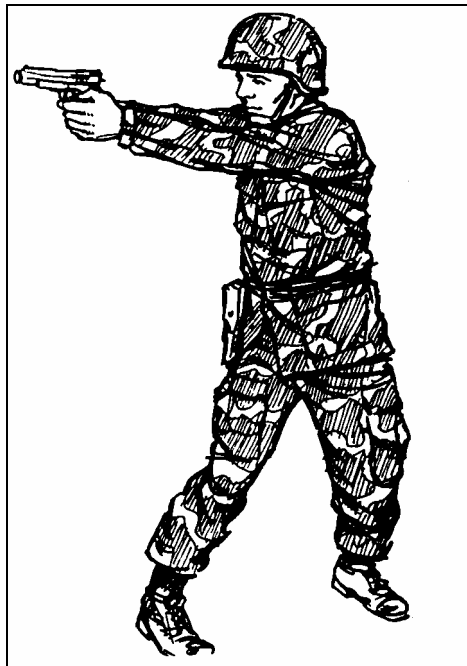

Figure 2-18. Traversing to the right.
(4) *Traversing to the Right* (Figure 2-18): The upper body turns to the right as both elbows bend. The right elbow is naturally bent more than the left.